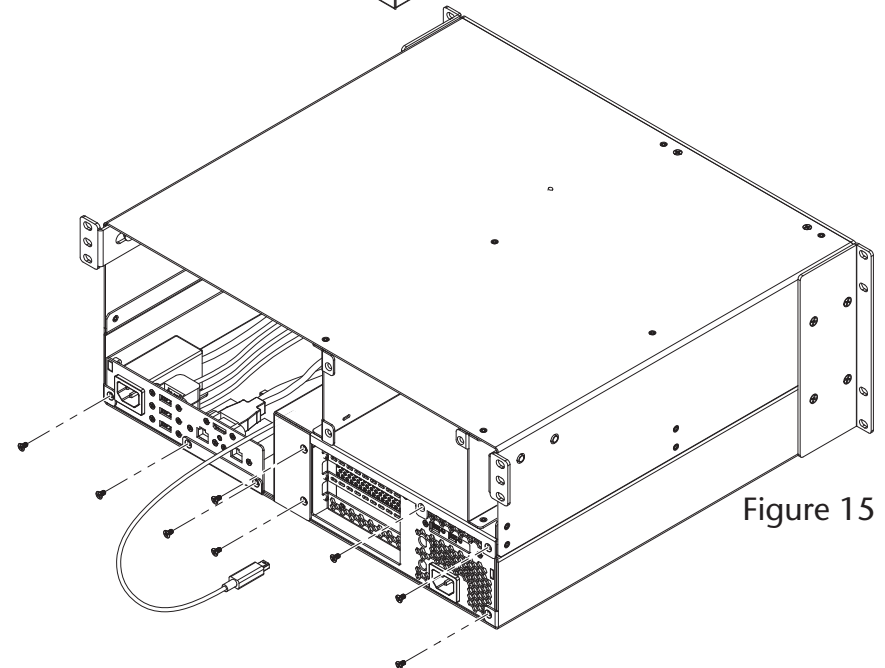

Figure 15
4. Using the eight screws you removed previously, secure the computer mounting and PCIe card expansion modules to the rackmount enclosure (**Figure 15**).